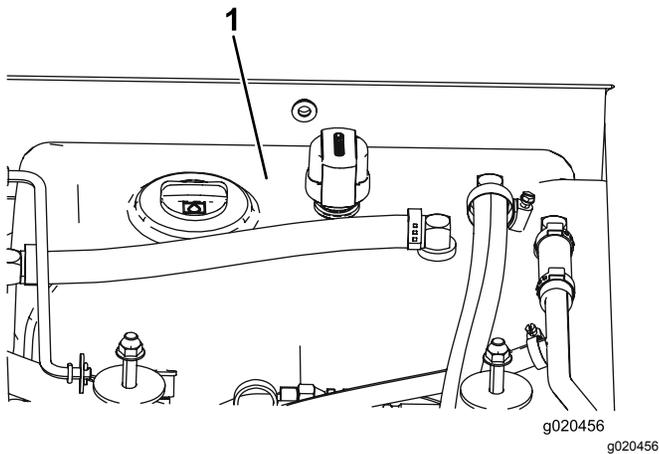

Figure 104
4. Fill the reservoir (Figure 104) with hydraulic fluid; refer to Checking the Hydraulic Fluid \(page 71\).